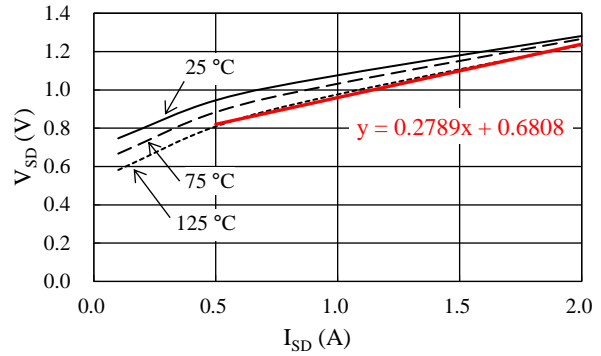

Figure 14-2. Linear Approximate Equation of V_{SD} vs. I_{SD}
- V_{DC} is the main power supply voltage (V), i.e., the VBB pin input voltage, and
Steady-state loss in the body diode of a power MOSFET can be computed by using the V_{SD} vs. I_{SD} curves, listed in Section 15.3.1. As expressed by the curves in Figure 14-2, a linear approximation at a range the I_{SD} is actually used is obtained by: V_{SD} = α × I_{SD} + β. The values gained by the above calculation are then applied as parameters in Equation (6), below. Hence, the equation to obtain the body diode steady-state loss, P_{SD}, is: